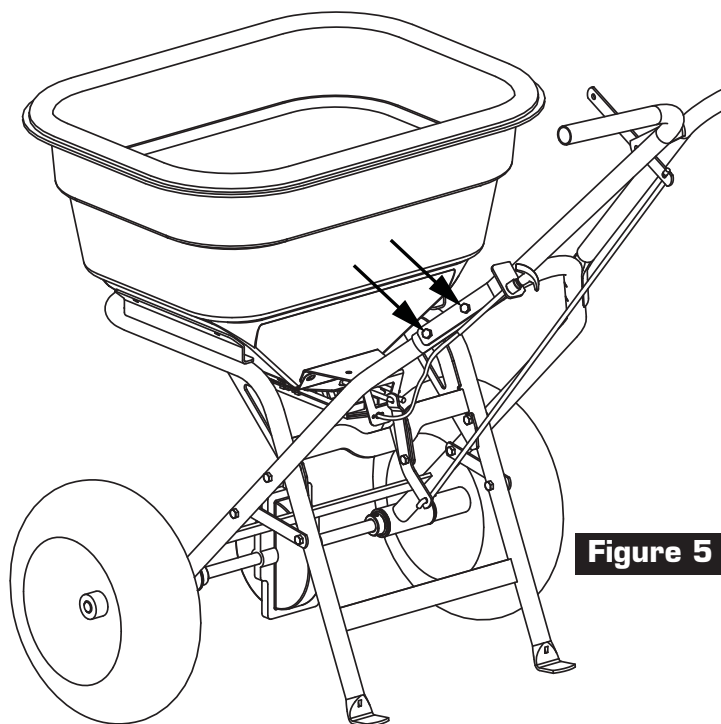

Figure 5
6. Install handle to frame as shown using 1/4" x 1-3/4" Bolts and Locknuts. NOTE: You'll need to orient and install the cable bracket as shown on the left side of the spreader, Figure 5.